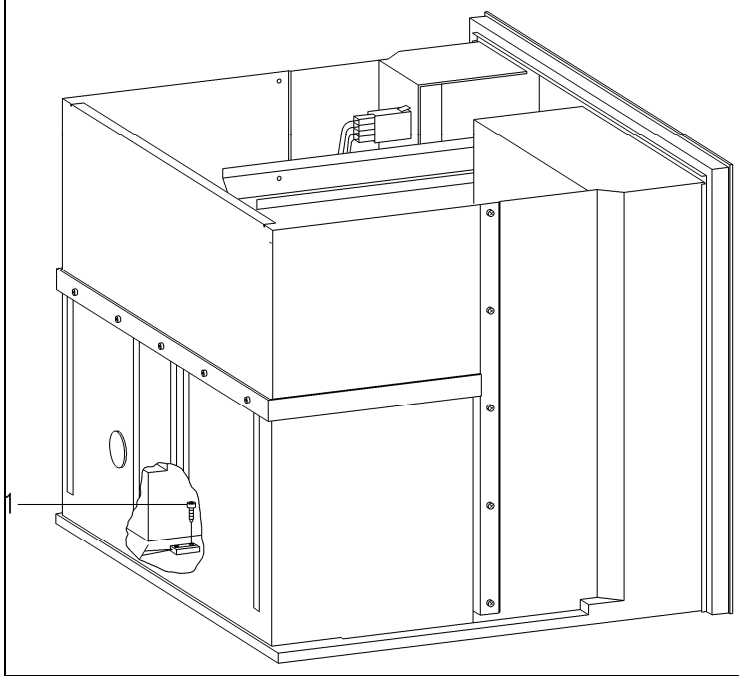

Figure 5-9: Overflow Switch
2. Remove the screw securing the overflow switch (Figure 5-9, Item 1).